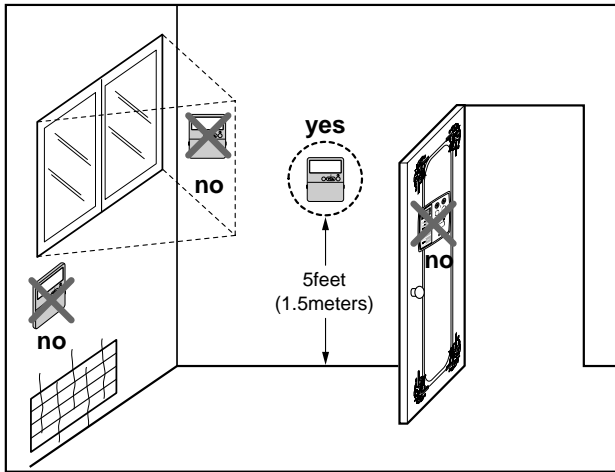

Figure 5 Typical locations for remote controller
- This remote controller is equipped with a seven segment LED. display. For proper display of the remote controller LED's, the remote controller should be installed properly as shown in Fig.5.
- 3) Refer to Figure 5 for the electrical access locations provided on the unit.